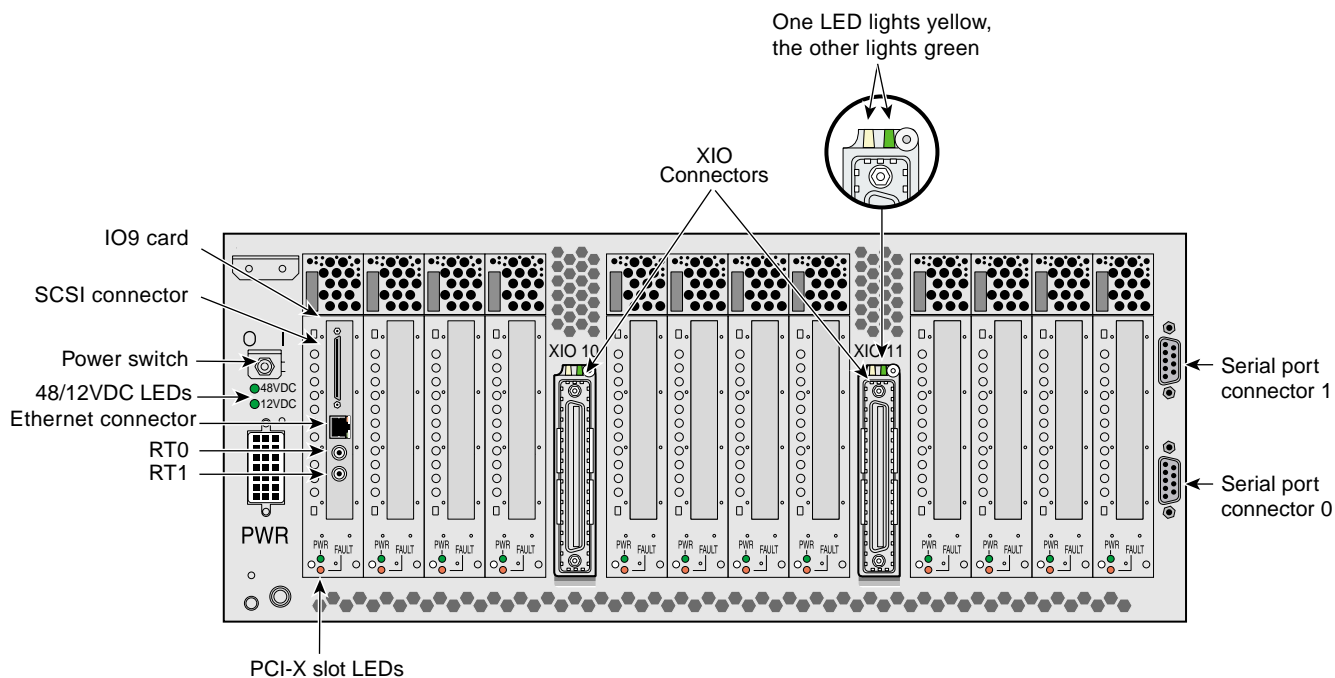

Figure 6-5 Rear Panel of IX-brick
- Two RS-232 DB-9 serial port connectors. (These two connectors are not located on the IO9 PCI card; instead, they are located on the right side of the IX-brick rear panel [see Figure 6-5 on page 119].)
The IX-brick has the following rear panel components (see Figure 6-5):
- **PCI-X slots.** These slots seat the PCI cards. See “Adding or Replacing a PCI or PCI-X Card” on page 174. The card slots are numbered bus 1 through bus 6. Each bus has two slots, labeled 1 and 2, as shown in Figure 6-5.